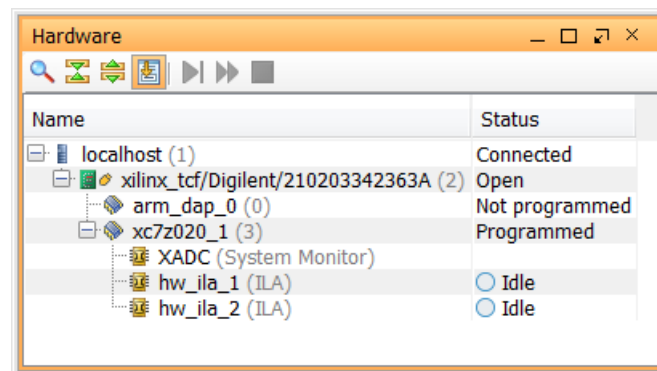

Figure 86: Vivado Hardware Window
8. When the Vivado Hardware Session successfully connects to the ZC702 board, you see the information shown (FIGURE 86).